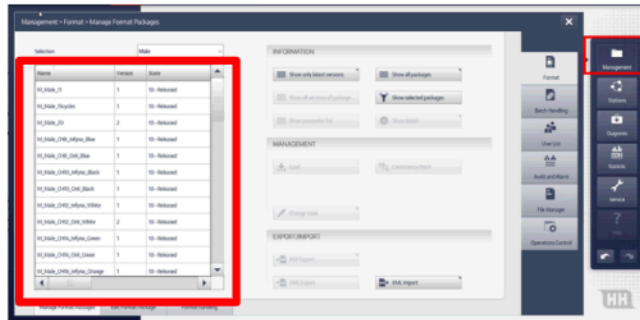

Figure 9
2. Select the recipe as per work order (Figure 9)